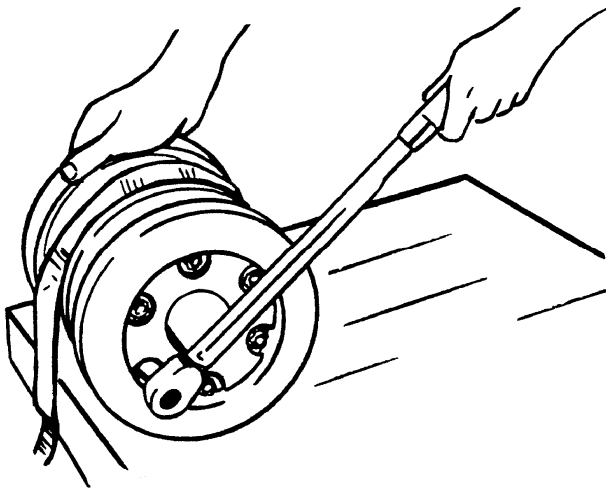

Fig. 14.26. Torquing Bolts
3. Install the washer (6) in the roller bore. Apply a small amount of grease to O-ring (5) and install in groove in bushing retainer (4). Apply LOCTITE #262 to threads and secure the bushing retainer to the roller housing. Torque the bolts to 134 [Nm]. To prevent roller assembly from moving as bolts are torqued, a strap can be used to secure roller body to bench as shown in Fig. 14.26.